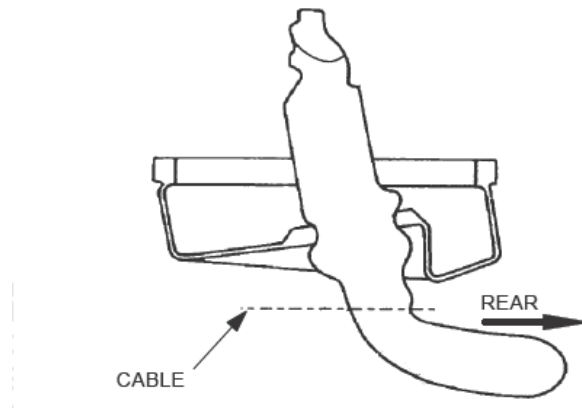

Figure 8 Draw Link and Dust Boot – Installation
55. **Assembly and Installation.** Assemble the park brake as follows (Figures 8 to 11):
- a. Slide the draw link into the dust boot until the dust boot lip is located in the correct notches, as shown in Figure 8.